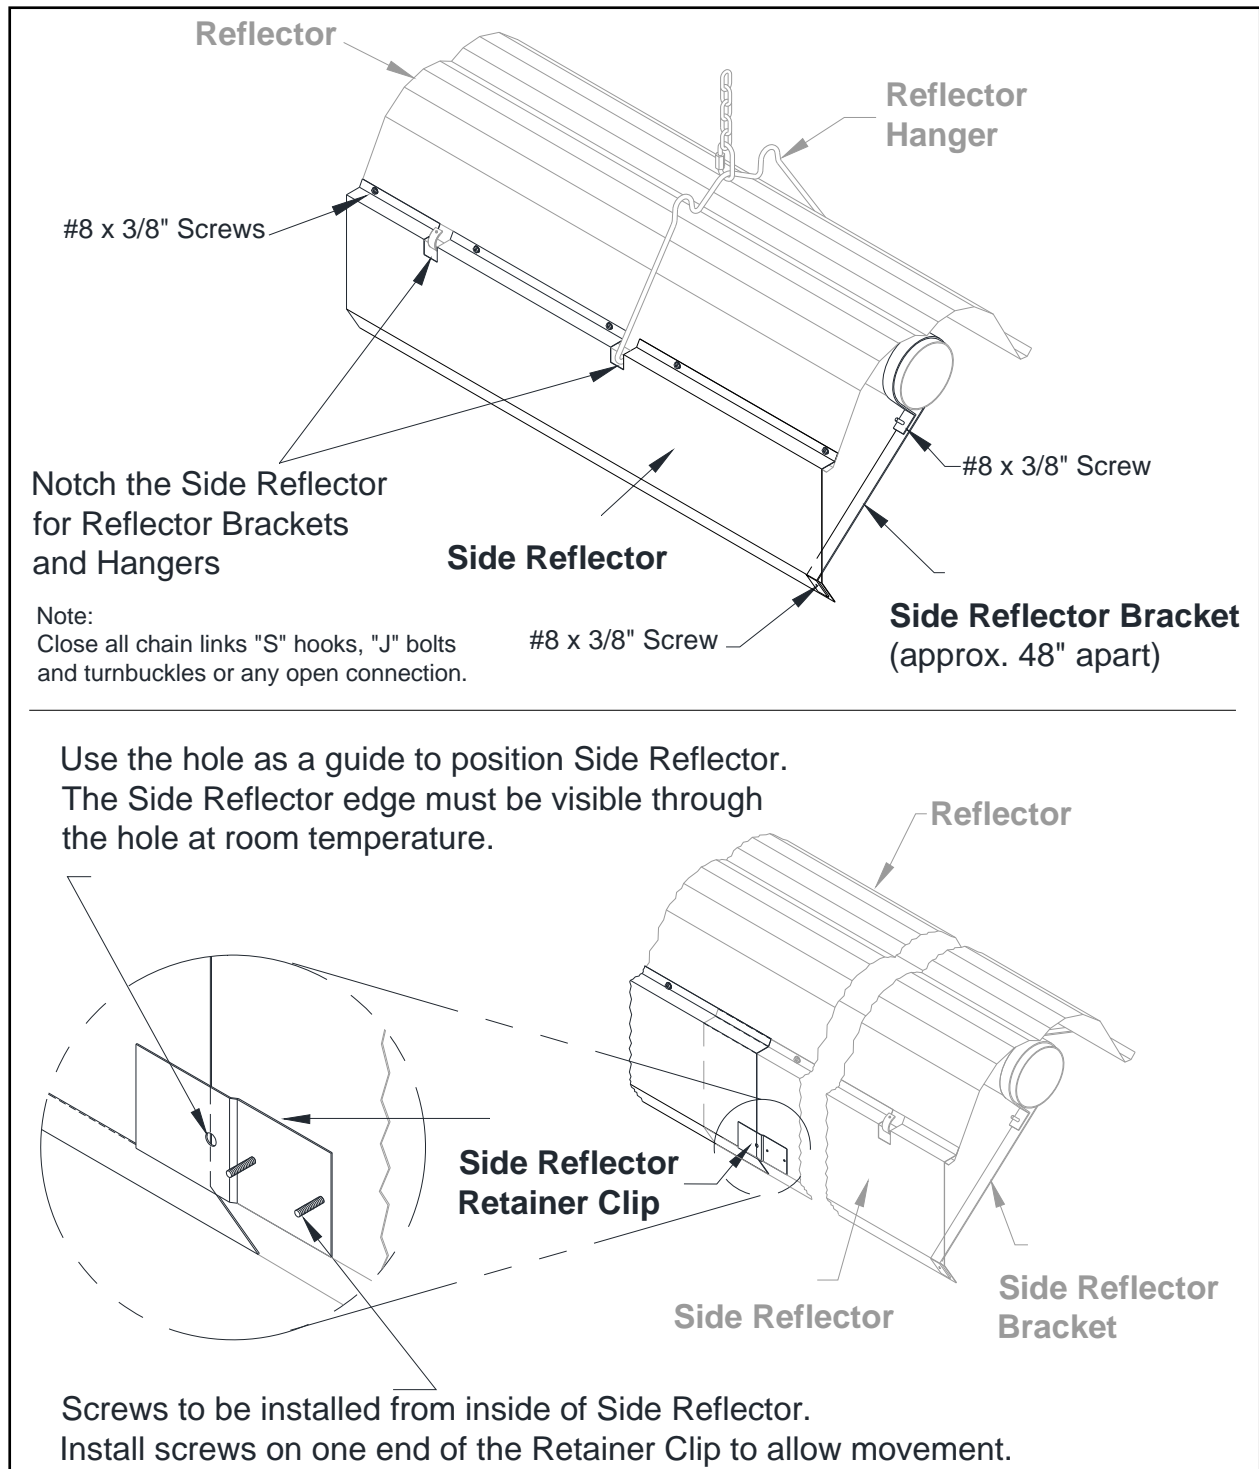
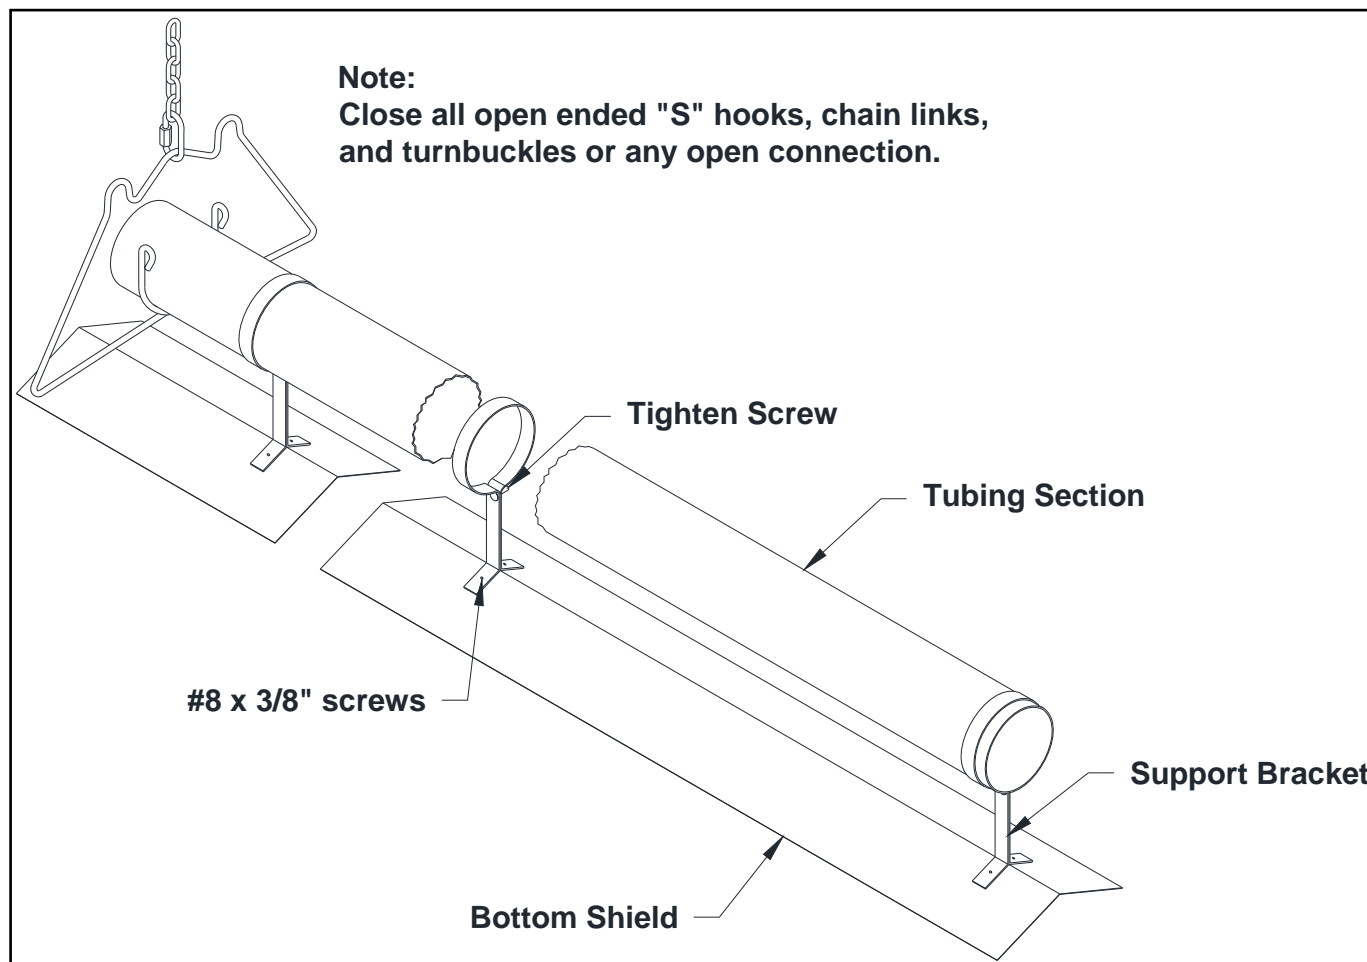

Figure 20: Side Shield Overlap
Figure 21: Bottom Shield Installation
- If used, install side shields (reflectors) and/or bottom shield as required. Refer to Figure 20 and Figure 21 for details.
- Side shields are 124" long. Fasten one side shield per reflector with #8 x 3/8" screws. Use three side shield brackets per side shield. Space about 48" apart, refer to Figure 20.
- Bottom shields need not overlap. Each 5' section is held with two support brackets (see Figure 21).